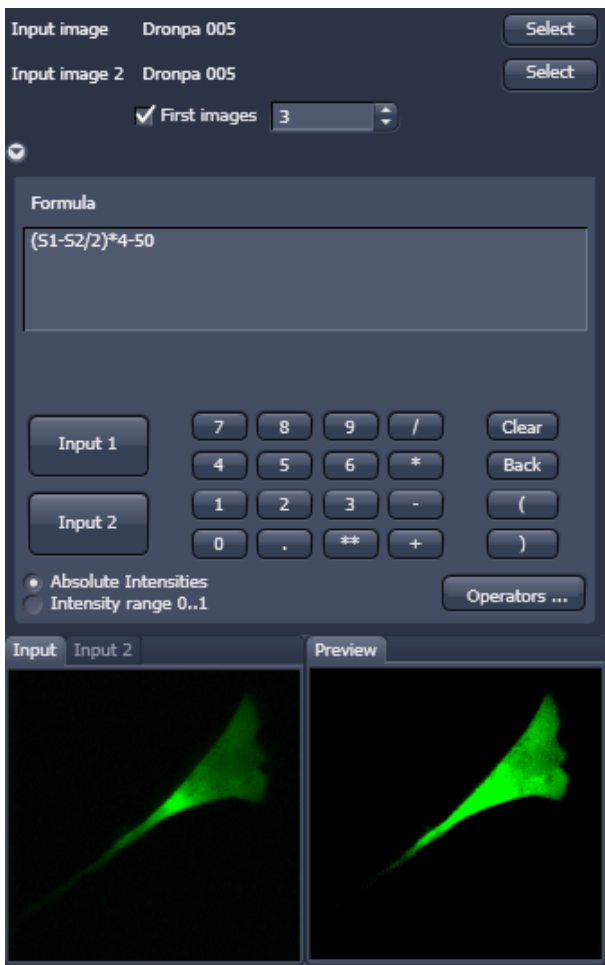

Fig. 5-71 Image calculation window
- Then type/edit an operator as shown in Fig. 5-71 that enhances the relative changes in the image with respect to the relatively bright signal level, for example: